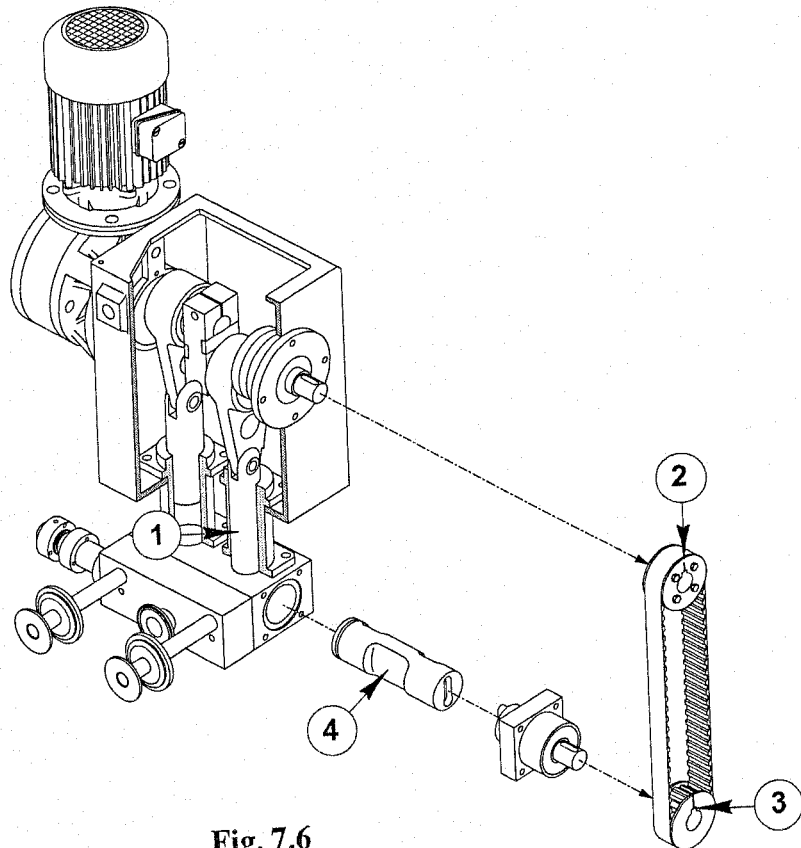

Fig. 7.6
- **Mix supply pump (Fig. 7.6)**
Inspecting alignment (Fig. 7.6)